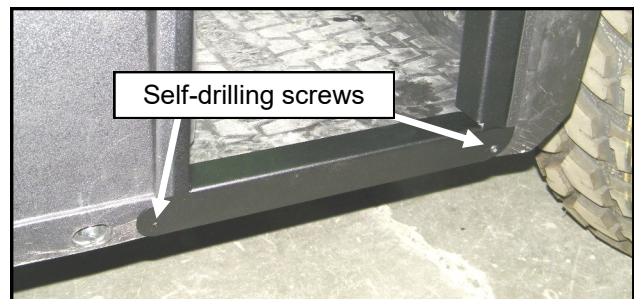

Fig. 15.2 Fuel filler cover
**15.2** Per figure 15.2, on the passenger's side, place the front flange of the fuel filler cover against the lower flange of the A-pillar and install a self-drilling screw through the slots at the front of the fuel filler cover and lower flange of the A-pillar. Install a second self-drilling screw through the hole at the rear of the lower flange of the fuel filler cover. On the driver's side, install a self-drilling screw through the lower flange of the A-pillar.